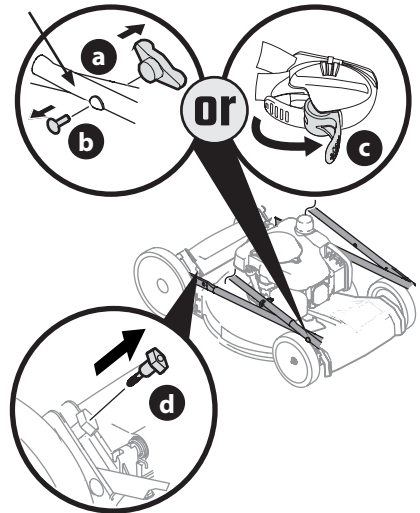

Figure 6
1. Remove knobs or wing nuts (a) and carriage bolts (b) from the handle, or if equipped with the EZ-lock handle (c), proceed to STEP 2 (Figure 6).
2. Remove the T-bolts (d) from the handle brackets (Figure 6).